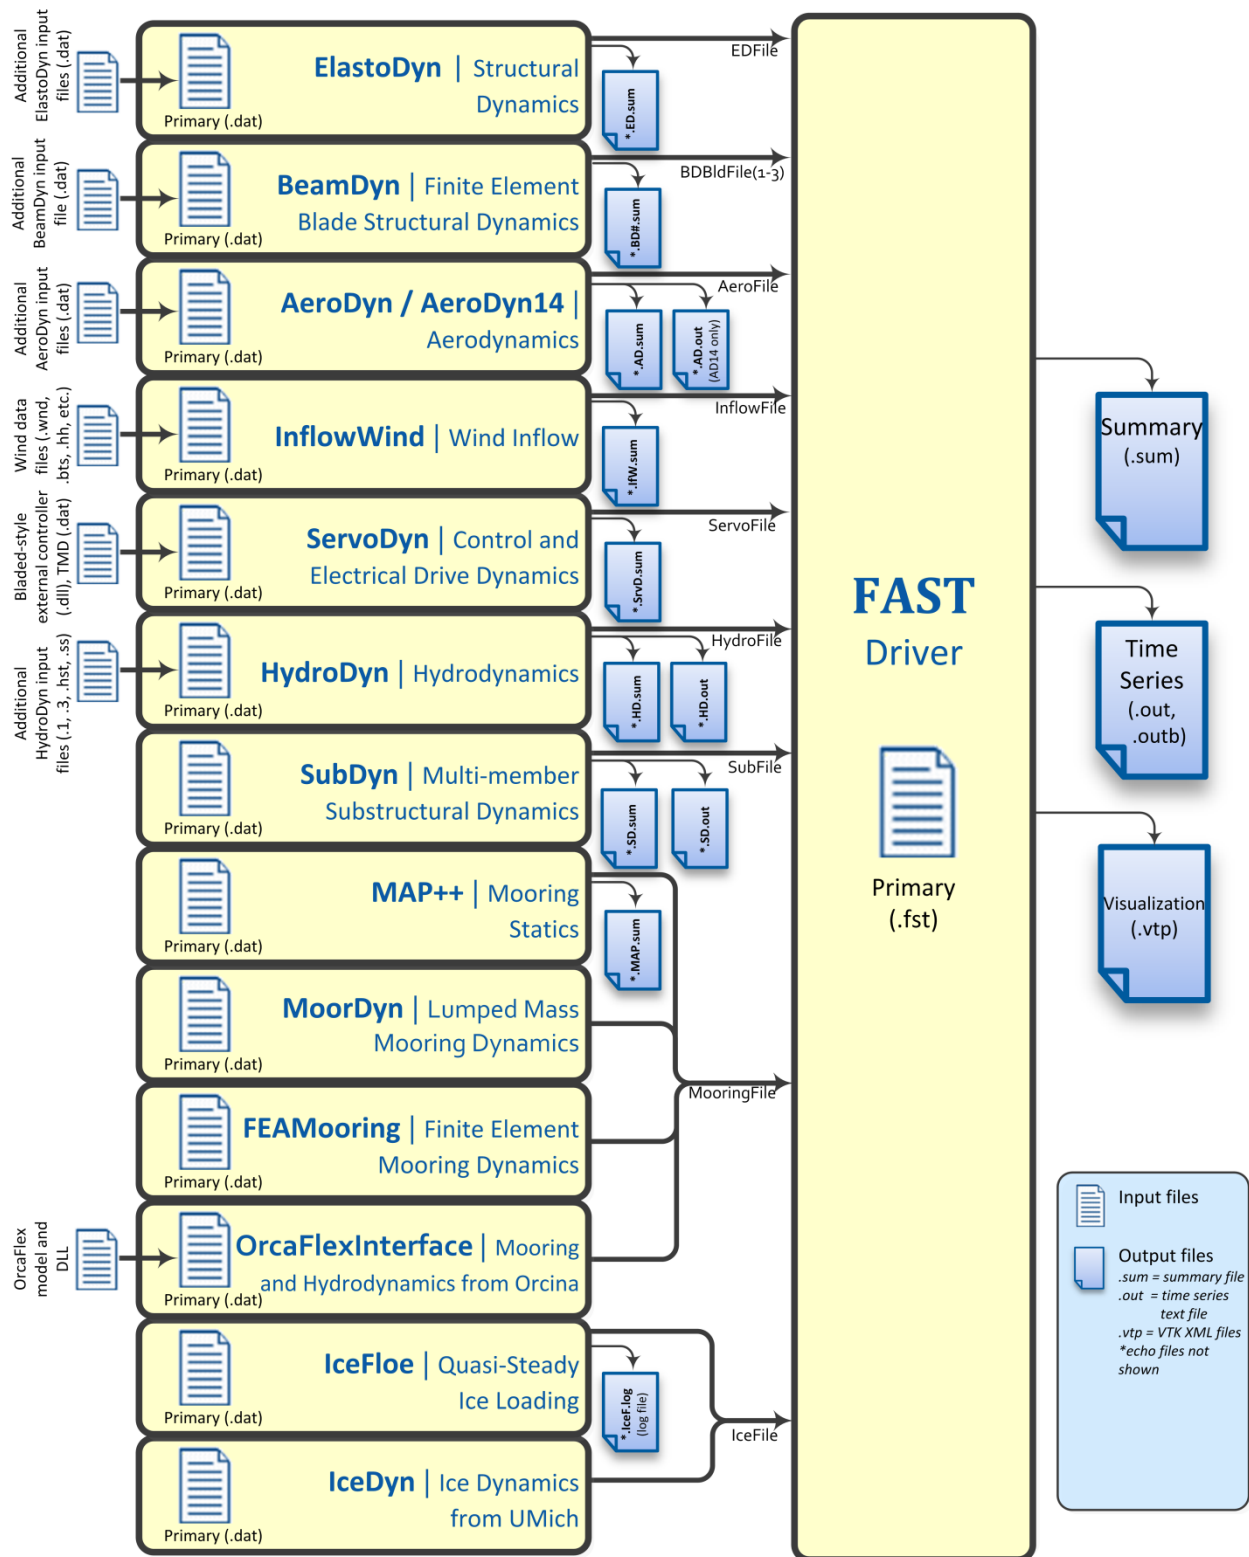

Figure 4: Summary of Input and Output Files for FAST v8.15.00a-bjj
- The names of output files generated by both FAST and its modules have been standardized, see Figure 4 and section “FAST v8 Input and Output Files.”
FAST and each of its modules have their own input files; see Figure 4.